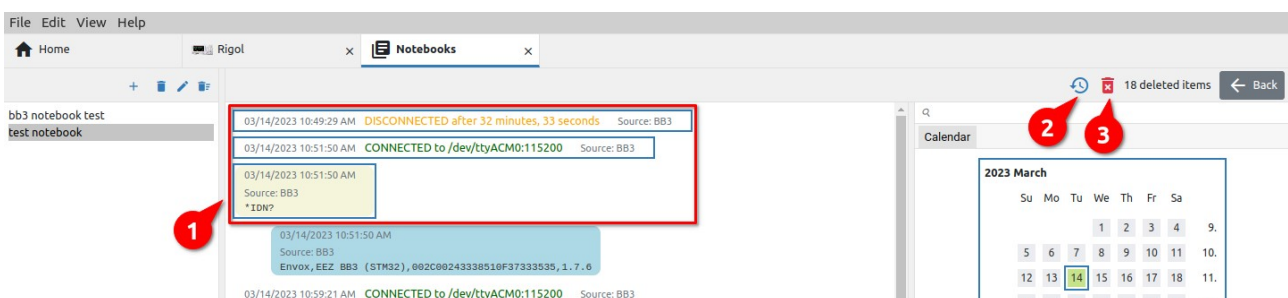

Fig. 19: Selection of deleted items for restore or purge
If one or more items are selected from the list of deleted items, options for restore (2) or purge (3) will appear (Fig. 19).